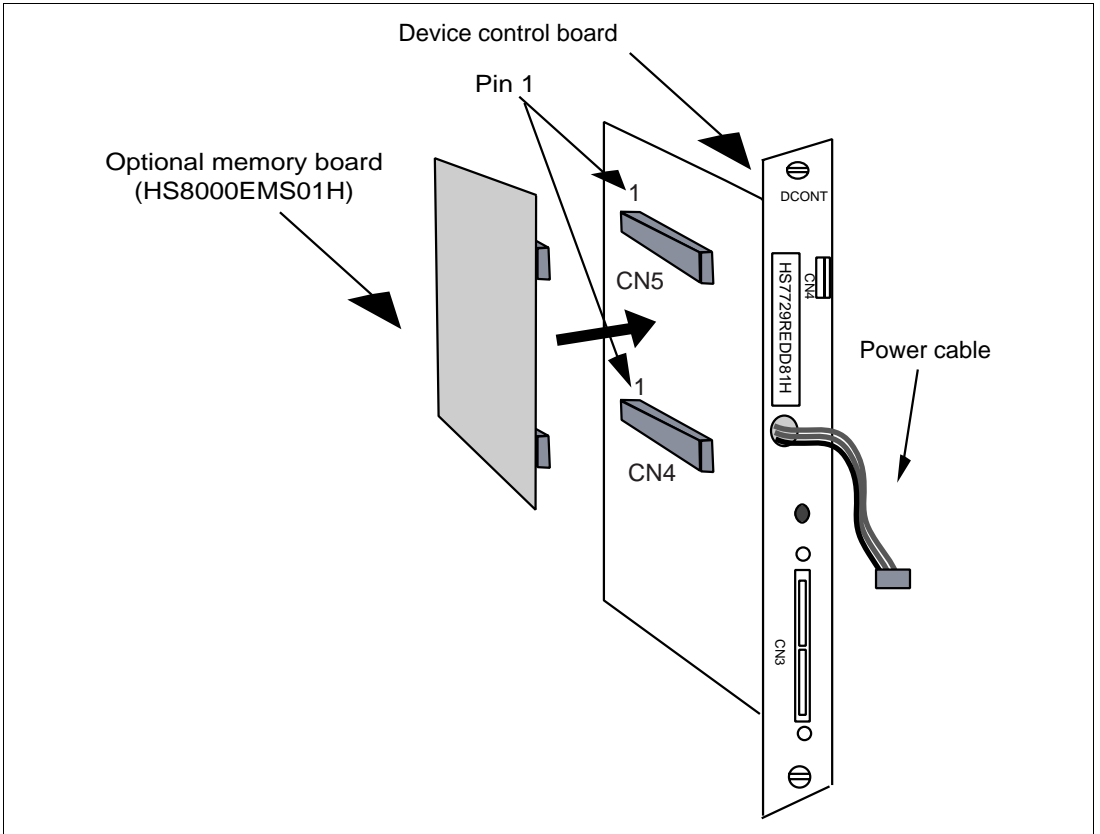

Figure 3.2 Connecting the Memory Board
- When using the optional memory board, connect the optional memory board to the device control board as shown in figure 3.2. Then connect the device control board to the emulator station. Confirm pin 1 of CN4 and CN5 on the device control board and align pin 1 with the optional memory board.